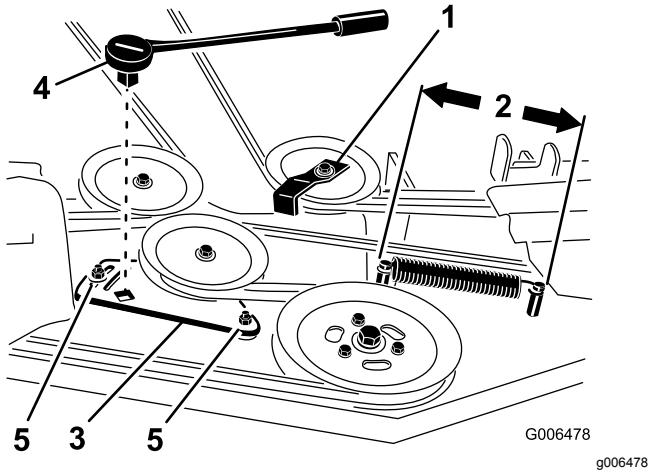

Figure 77
4. For 72-inch mowers, loosen the idler plate bolts holding the idler plate (Figure 77).
6. Remove the belt guide on the spring-loaded idler pulley shown in Figure 75 and Figure 77.
9. Install the belt guide on the spring-loaded idler at a 45 degree angle as shown in Figure 75 and Figure 77. Torque the bolt to 37 to 45 N·m (27 to 33 ft·lb).
10. Install the idler spring to the 2 posts (Figure 75 and Figure 77).
4. Measure the spring length (Figure 77). If the spring length is between 25.4 to 26 cm (10 to 10-1/4 inches), from post to post, no adjustment is needed.
5. Loosen the bolts holding the idler plate (Figure 77).
6. Insert a ratchet or breaker bar into the square hole in the idler plate to adjust the tension (Figure 77).
7. Rotate the ratchet or breaker bar to move the idler plate until the idler spring is between 25.4 to 26.0 cm (10 to 10-1/4 inches) from post to post as shown in Figure 77.
8. While holding the belt tension and spring length, tighten the idler plate bolts that secure the idler plate (Figure 77).